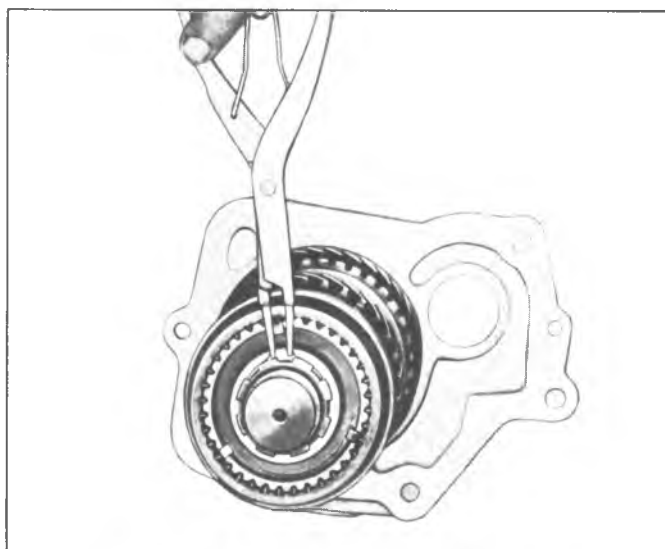

Fig. 9B--Removing Mainshaft Front Snap Ring
15. Remove mainshaft front snap ring as shown in Figure 9B and slide third and fourth speed clutch assembly, third speed gear and synchronizing ring from front of mainshaft.